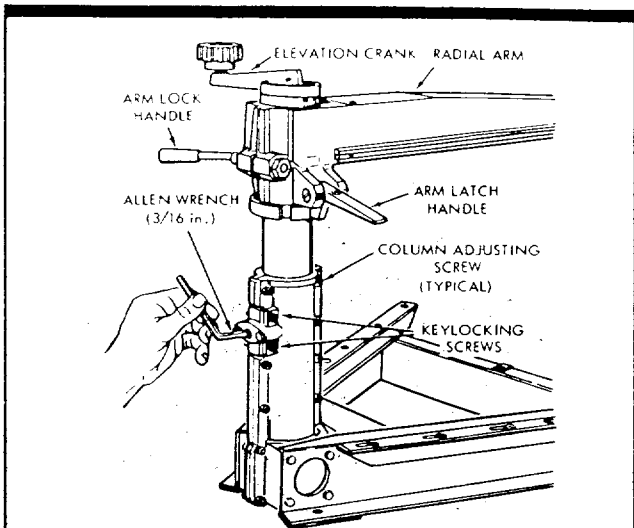

Figure 4
1. Set the radial arm at 0° index position, making sure the arm latch handle is in the detent notch, and tighten the arm lock handle. (See figure 4.)
3. Insert a 3/16-inch Allen wrench into the socket-head set-screw that adjusts the column tube wedge key, as shown in figure 4. Rotate the set-screw slowly in (clockwise) until no side play can be felt in radial arm.
7. When all side play has been eliminated, lock the column tube key in place by tightening screws at top and bottom of key. (See figure 4.)
1. Set the radial arm at 0° index position and tighten the arm lock handle. (See figure 4.)
2. Raise the arm latch handle out of the detent, loosen the arm lock handle (figure 4) and loosen the carriage lock knob (4, figure 1). This will permit easy positioning of saw blade during leveling operations.